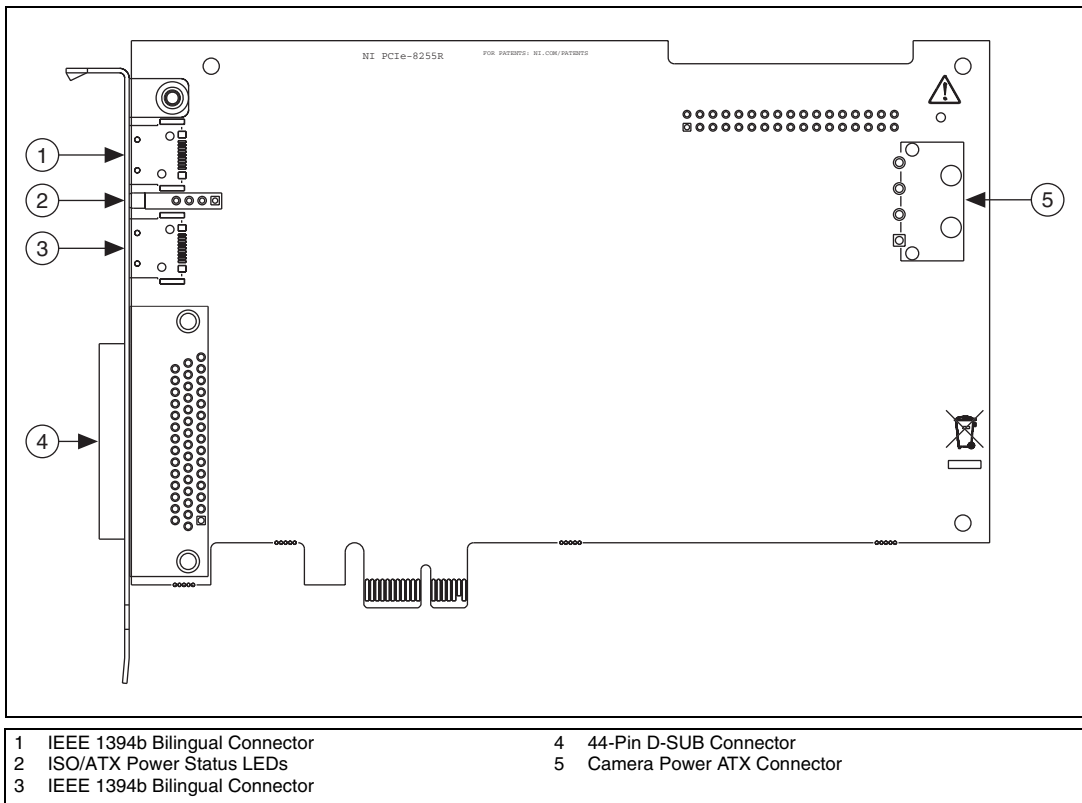

Figure 2. NI 8255R Connectors
- To provide power to your camera, connect an unused power connector from the ATX power supply on your computer to the camera power ATX connector on your NI 8255R. Refer to Figure 2 for information about placement of the connectors on the NI 8255R.